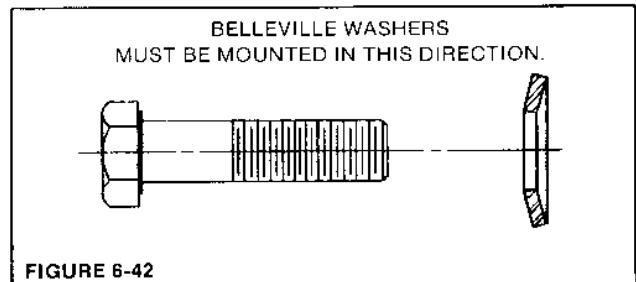

FIGURE 6-42
4. To reinstall, slide the fan on the shaft making sure the fan mounting surface is toward the drive hub. Align reference marks (this is important for assembly balance) and mount the fan to the drive hub with the capscrews and belleville washers. (Figure 6-42.) Torque the capscrews to 60 ft-lb. (81 N-m).